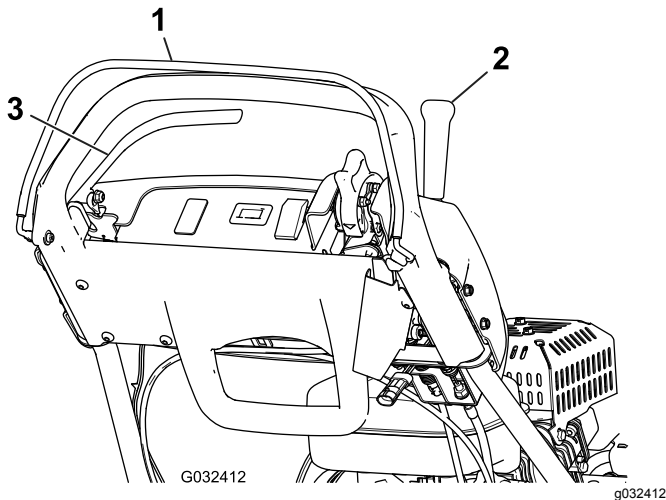

Figure 29
3. With the OPC released, attempt to engage the traction lever (Figure 29). The traction lever **should not** engage. If the traction lever engages, the interlock system needs service. Correct the problem before operating the machine; refer to Servicing the Traction-Interlock Switch \(page 33\).
4. With the OPC pressed and the traction lever engaged, release the OPC (Figure 29). The traction lever **should** disengage. If the traction
5. With the OPC pressed and the shift lever moved to the left, engage the traction and reel drive and release the OPC (Figure 29). The traction lever **should** disengage. If the traction lever does not disengage, the interlock system needs service. Correct the problem before operating the machine; refer to Servicing the Traction-Interlock Switch \(page 33\) or Adjusting the Reel Control \(page 36\).
6. With the OPC pressed and the shift lever moved to the left to engage the traction and reel drive, move the shift lever to the right to disengage the reel drive (Figure 29). The reel drive **should** disengage. If the reel drive does not disengage, the interlock system needs service. Correct the problem before operating the machine; refer to Adjusting the Reel Control \(page 36\).
2. With the OPC pressed, the traction lever engaged, and the engine controls in the starting position (Figure 29), attempt to start the engine. The engine **should not** start. If the engine starts, the interlock switch needs service. Correct the problem before operating the machine; refer to Servicing the Traction-Interlock Switch \(page 33\).
2. With the traction lever disengaged, the service brake engaged, and the engine controls in the starting position (Figure 29), attempt to start the engine. The engine **should** start. If the engine does not start, the interlock switch needs service. Correct the problem before operating the machine; refer to Servicing the Brake-Interlock Switch \(page 33\).
OPC, and engage the traction lever (Figure 29). The engine should labor to overcome the brake but should not shut off. If the engine shuts off immediately, the interlock switch needs service. Correct the problem before operating the machine; refer to Checking the Brake-Interlock Switch \(page 22\).
4. With the engine running, engage the parking-brake latch, press the OPC, and engage the traction lever (Figure 29). The engine **should** shut off. If the engine does not shut off, the interlock switch needs service. Correct the problem before operating the machine; refer to Servicing the Brake-Interlock Switch \(page 33\).